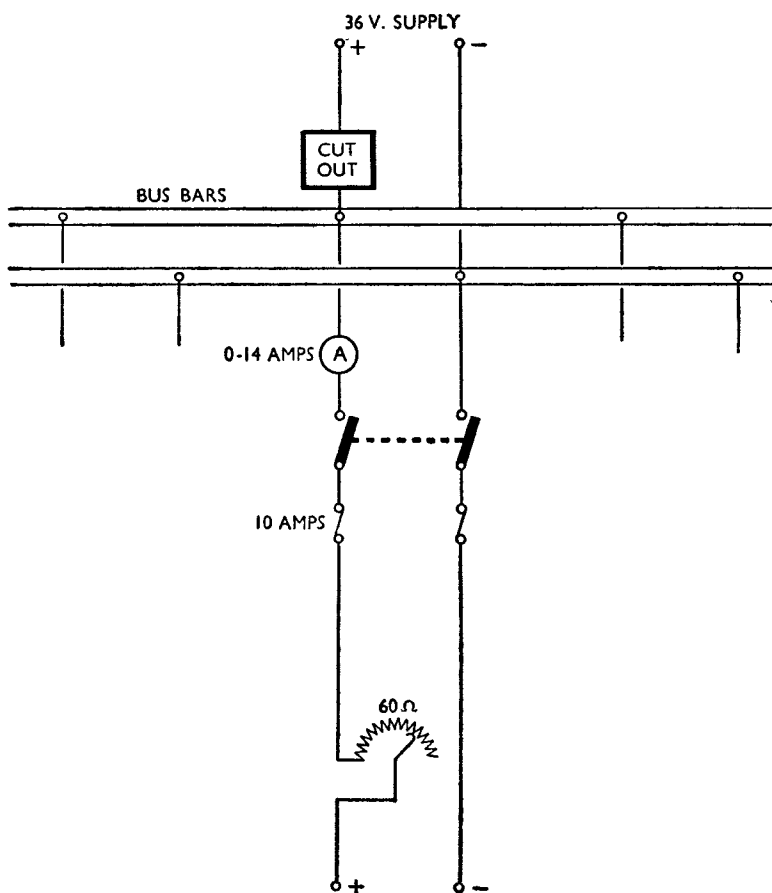

FIG. 19.—TYPE "B" CHARGING BOARD.
7. Fig. 19 shows the circuit diagram of the "Type B" charging board ; it is a complete three-circuit charging board with protective devices, designed to operate on a 36-volt D.C. supply. A.C. mains can be employed in conjunction with a step-down transformer and rectifier.